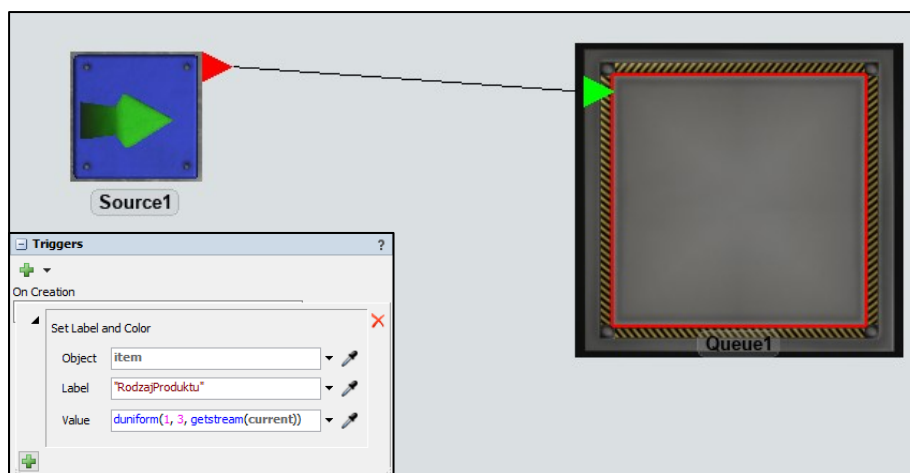

Fig. 3. Adding label at *Queue1*
3. Adding a trigger to assign a value to the **ProductType** label each time a flow element is generated (Fig. 3).